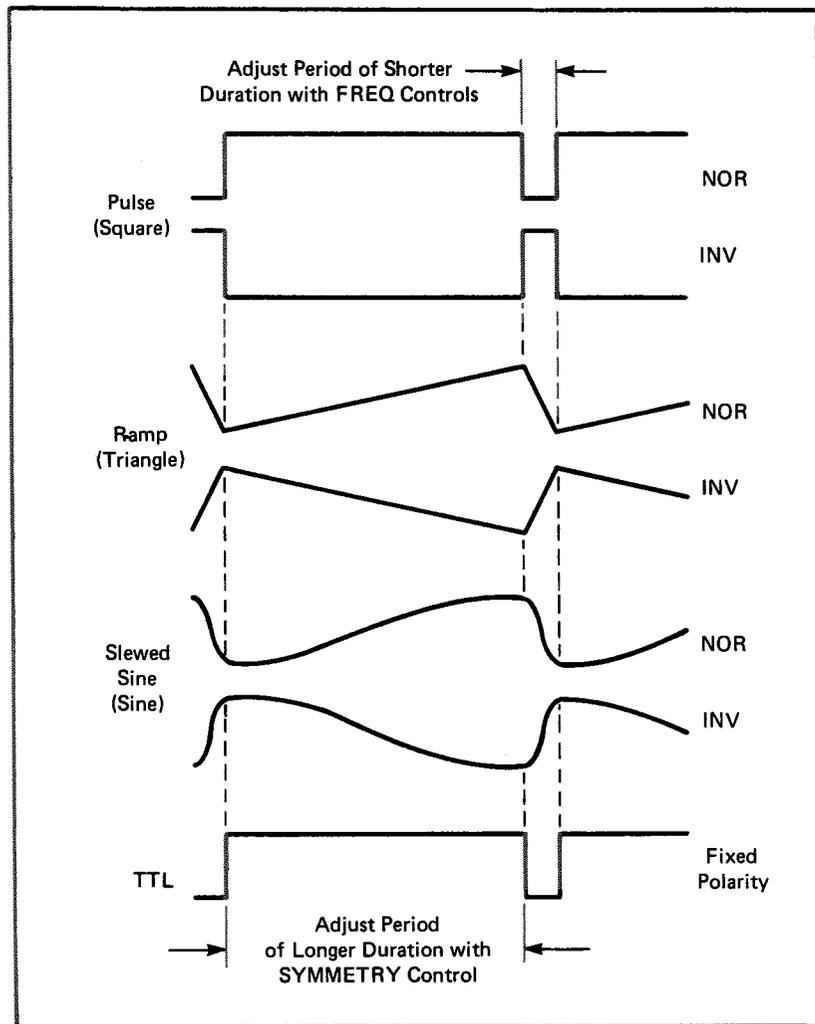

Fig. 5. Pulse, ramp, and slewed sine wave generation.
In a symmetrical square wave, sine wave, or triangle wave, the positive and negative transitions are of equal time duration, or 1:1 ratio. This is the condition when the SYMMETRY control is set to the CAL position. When the SYMMETRY control is rotated, the positive transition can be stretched in relation to the negative transition, up to at least 40:1 ratio. Square waves can be stretched into rectangular waves or pulses, triangle waves can be stretched into ramp or sawtooth waves, and sine waves can be stretched into a distorted waveshape called a slewed sine wave. An inverter allows either polarity output to be selected. Fig. 5 illustrates the types of waveforms possible and includes a summary of control settings used to obtain the desired waveform.
3. Select the desired polarity with the NOR/INV switch. See Fig. 5 for reference.